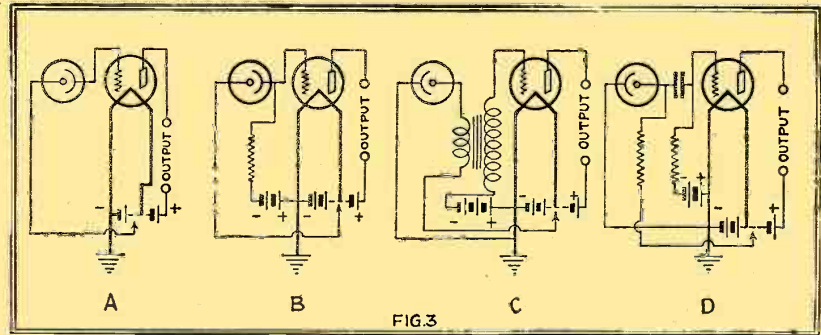

FIG. 3
The simplest circuit for a cell of this type is shown in the first diagram (A) in Fig. 3. The cell is connected to the grid of an amplifier tube (a 112A-type will do) which must be correctly biased for best operation; this biasing voltage should be near that specified for the tube, and should be variable so that the best operating point may be found.